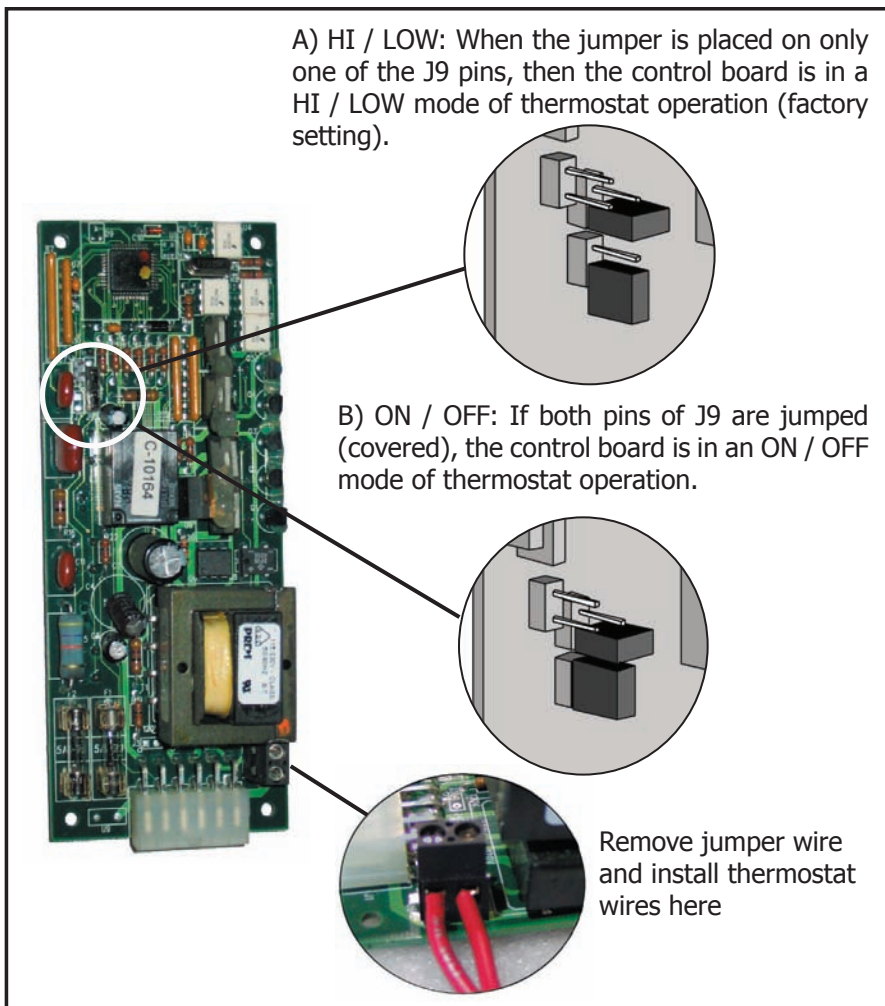

Figure 12: Setting the Thermostat mode Pins on DHC 2000 Board.
DHC 3000 Generation II - This board has a horizontal slide switch on the front and only one (1) fuse (see Figure 12). Do not adjust the pins on the back of the Generation II board.